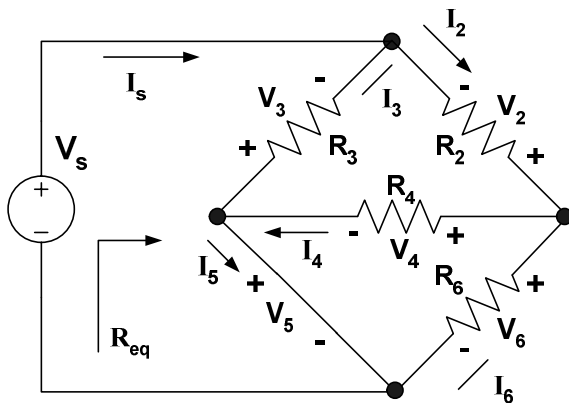

Figure 3: Series-parallel circuit I
1. Build the circuit given in Figure 3 on *Multisim Electronics Workbench*.
5. Build the circuit of Figure 3 with the hardwired components. Take the voltage current measurements and R_{eq} and record in Table 1. Considering the Workbench results as the base compute the percentage errors.
Table 1: Simulation and experimental results for Figure 3
Refer to Figure 3 and the results obtained in Table 1 and answer the following questions: